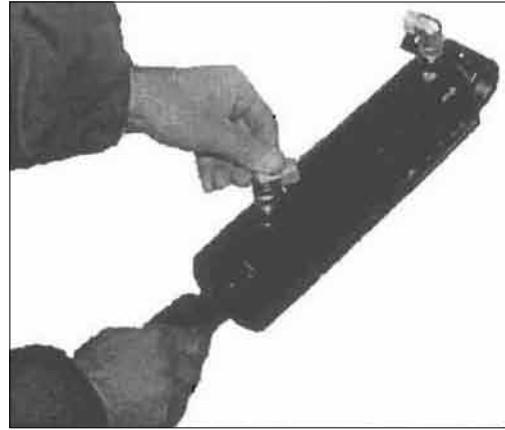

figure 1
- a. Attach fittings to the cylinder with the elbow fitting on the rod end port and the orifice fitting on the barrel end port (figure 1).